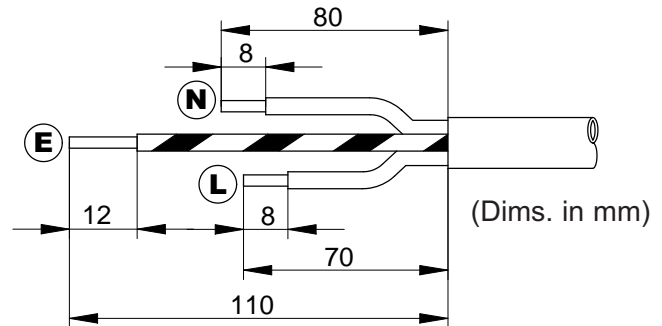

Fig. 19
2. Strip and prepare the cable sheath and insulators as shown in Fig. 19.